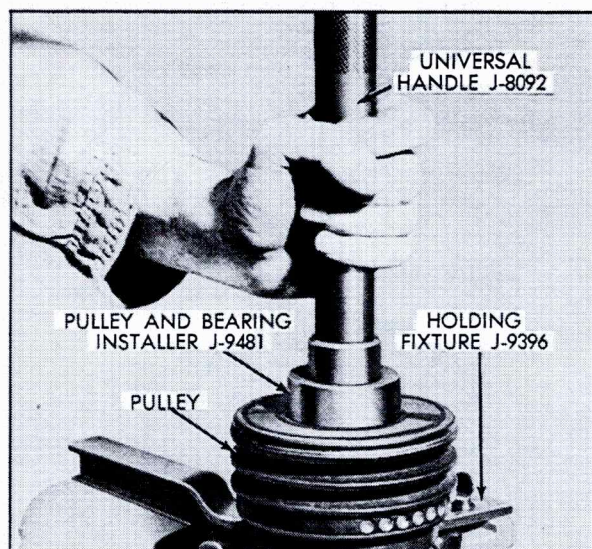

Fig. 1-44 Installing Pulley and Bearing Assembly
3. Press or tap pulley and bearing assembly on neck of compressor until it seats, using Pulley and Bearing Installer, J-9481, with Universal Handle, J-8092, Fig. 1-44. Installer will apply force to inner race of bearing and prevent damage to bearing.